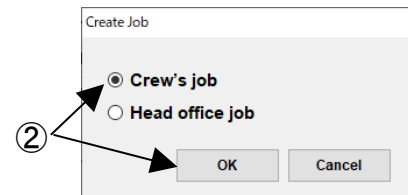

Fig.11-6 Create job screen
(2) "Create job screen" (Figure 11-6) will be displayed, select "Crew's job" and press the OK button.